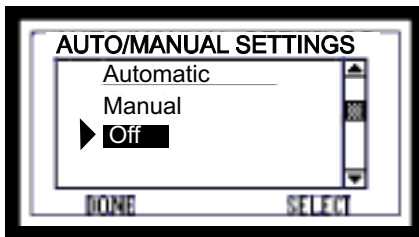

Figure 30.1
1. Set the wall control thermostat to "OFF" on AUTOMATIC/MANUAL SETTING screen and let the appliance completely cool. **Figure 30.1**. The exhaust blower must be off before you can unplug the appliance before servicing.